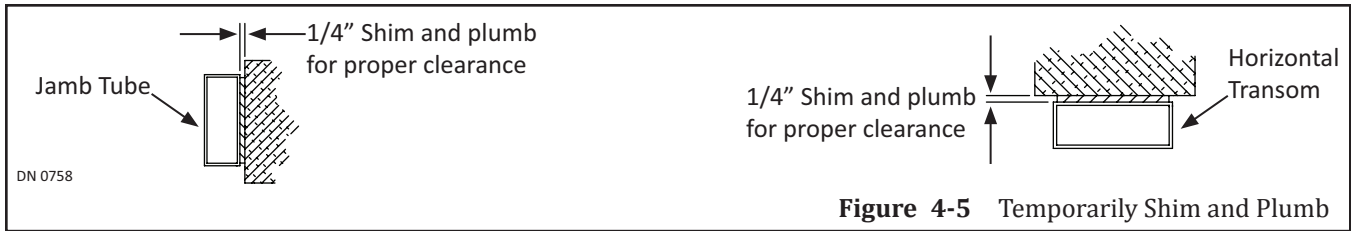

Figure 4-5 Temporarily Shim and Plumb
- Plumb Jamb tubes in both planes to ensure the rough opening allows a 1/4 inch (6mm) clearance. Please see Figure 4-5.